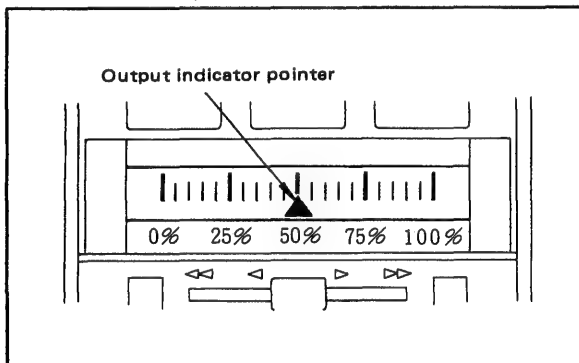

Figure 6-2-3. Output Indicator Main Scale Marks.
- (1) Apply a standard voltage of 3.0 V to input terminals X3 (terminals 5 (+) and 6 (-) from the DC voltage/current standard. (Keep current output terminals A (+) and B (-) shorted.)
- (2) Make sure that the output index is just on the main scale mark in the middle. The tolerance is $\pm 2.5\%$ (equivalent to 1/2 of each scale division.) (See Figure 6-2-3.)